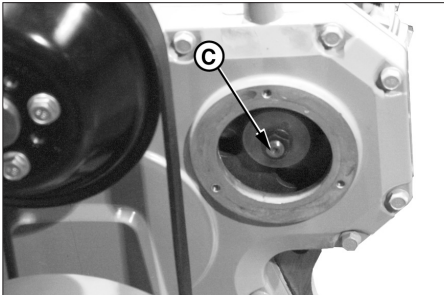

Figure 21 Reproduced by permission of Deere & Company, c.2004. Deere & Company, All rights reserved.
7. Push pump drive gear firmly onto shaft taper. Install washer and retaining nut (Figure 21-C) onto end of shaft. Tighten retaining nut to 90 lb-ft. (122 N•m) for DB2, 150 lb-ft. (203 N•m) for DB4.